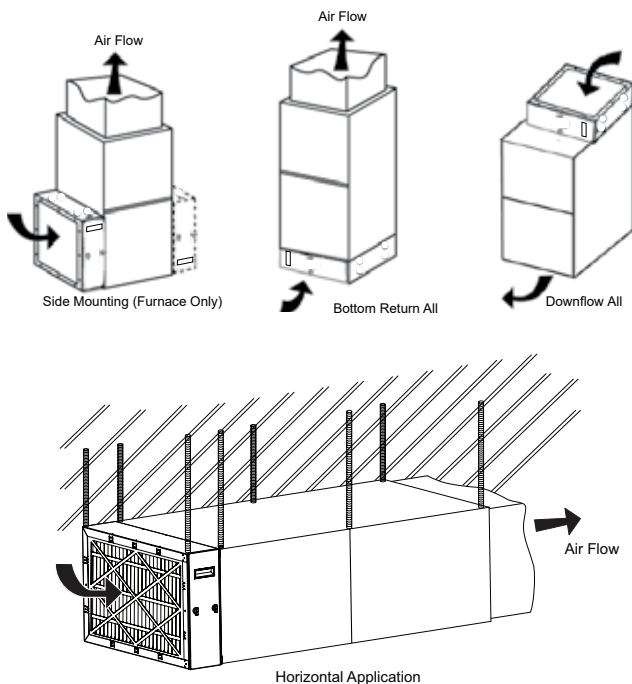

Figure 2. Mounting Location of Air Cleaner
This filter enclosure must be mounted in the return air duct on the entering air side of a central forced-air furnace/air handler. (See Figure 2 for example.)
6. On side return furnace applications, the filter may be installed on either side of the cabinet. See Figure 2. Install the self-adhesive gasket material onto the flange of the discharge-air side of the filter enclosure. Air flow direction must agree with air flow arrows on the cabinet.